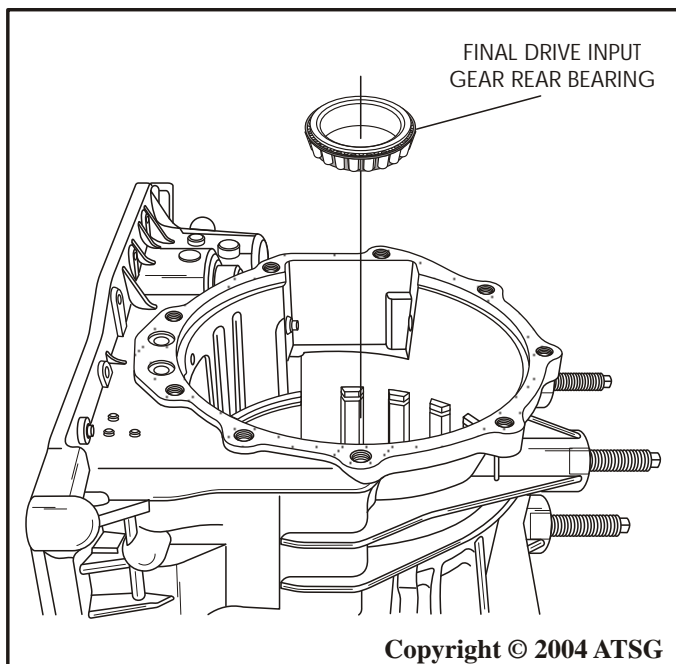

Figure 114
10. Remove the rear bearing from transaxle, as shown in Figure 114.